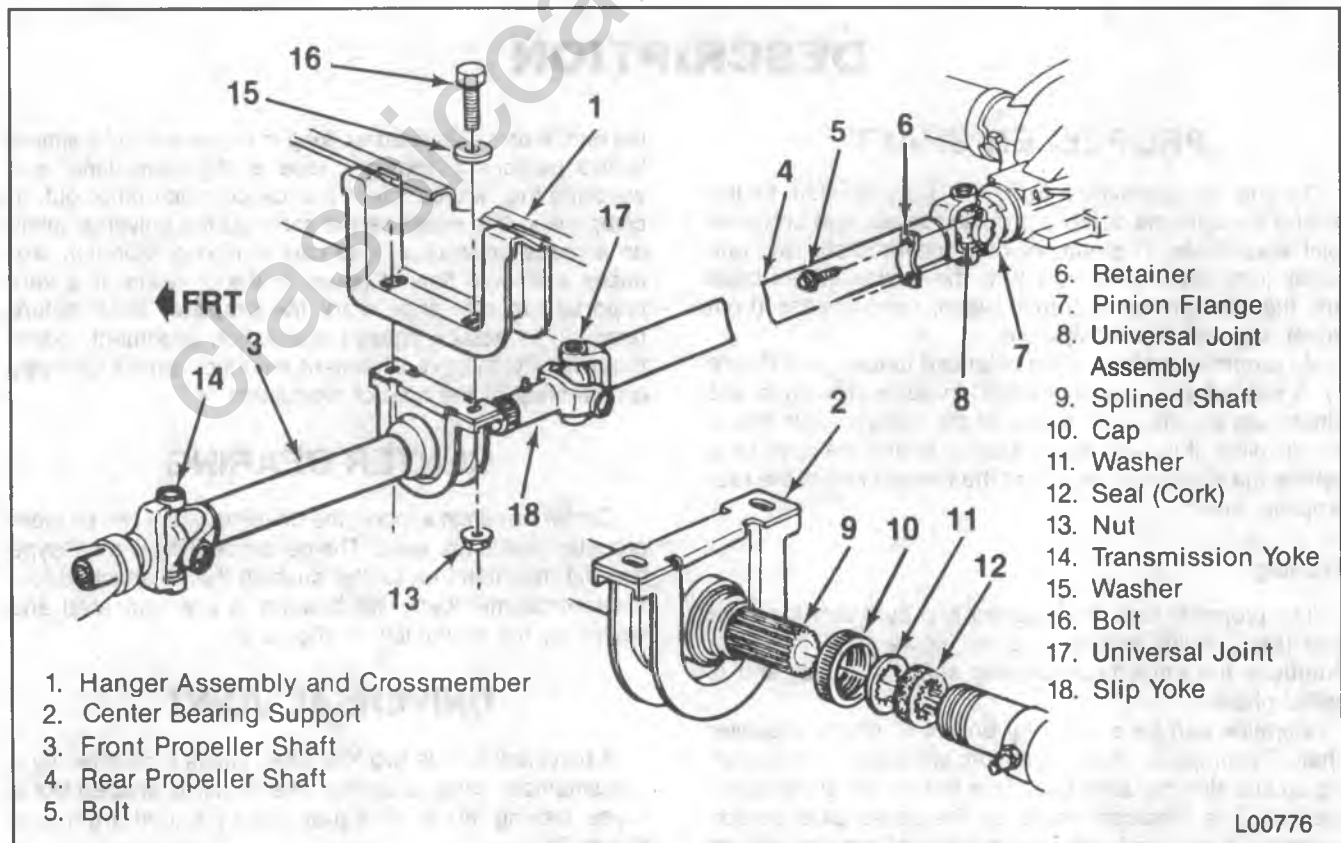

Figure 2 — Center Bearing and Propeller Shaft Detail
Center bearings support the driveline when two or more propeller shafts are used. The center bearing is a ball-type bearing mounted in a rubber cushion that is attached to a frame crossmember. The bearing is pre-lubricated and sealed by the manufacturer (figure 2).
**Remove or Disconnect (Figure 2)**
- Reference mark the propeller shaft (4) to pinion flange (7) connection.
- Support the propeller shaft (4).
- 2. Bolts (5). J 33051 may be used (if necessary).
- 3. Retainers (6).
- 4. Yoke and universal joint assembly (8).